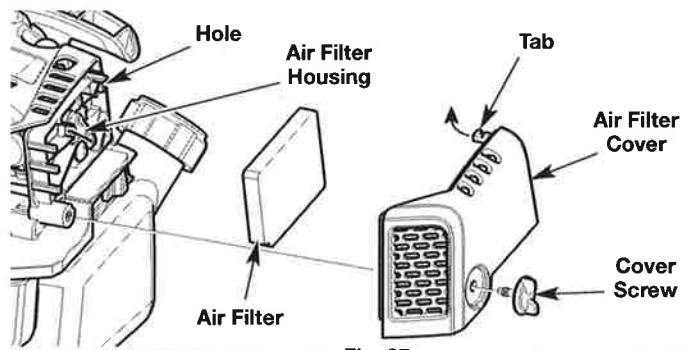

Fig. 27
1. Unscrew the cover screw completely. Swing the air filter cover to the right. Remove the air filter cover from the air filter housing (Fig. 27).
2. Remove the air filter from the air filter housing (Fig. 27).
6. Reinstall the air filter in the air filter housing (Fig. 27).
7. Insert the tab on the air filter cover into the hole on the air filter housing. Swing the air filter cover to the left. Push the air filter cover back onto the air filter housing. Insert the cover screw into the air filter cover. Tighten the cover screw to secure the air filter cover (Fig. 27).